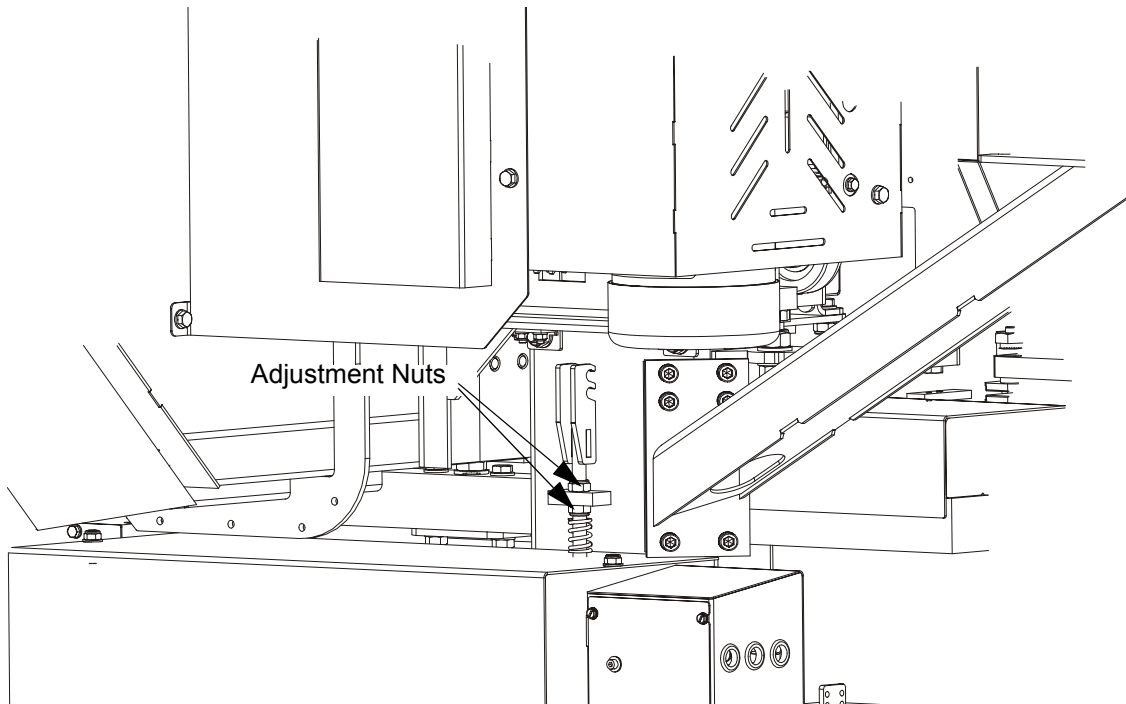

**FIG. 3-4**
**See Figure 3-4.** Adjust proper drive belt tension using the bolt located between the drive side wheel covers. To tighten drive belt turn the bolt clockwise. To loosen drive belt turn the bolt counter clockwise.